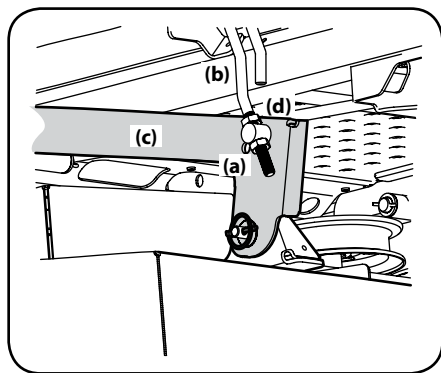

Figure 4-9
3. Loosen the lower nut (a) on the adjustable lift link (b) attached to the deck lift arm (c) to lower the deck and tighten the upper nut (d) to secure the deck in place, loosen the upper nut (d) then tighten the lower nut (a) to secure the deck in place. See Figure 4-9.